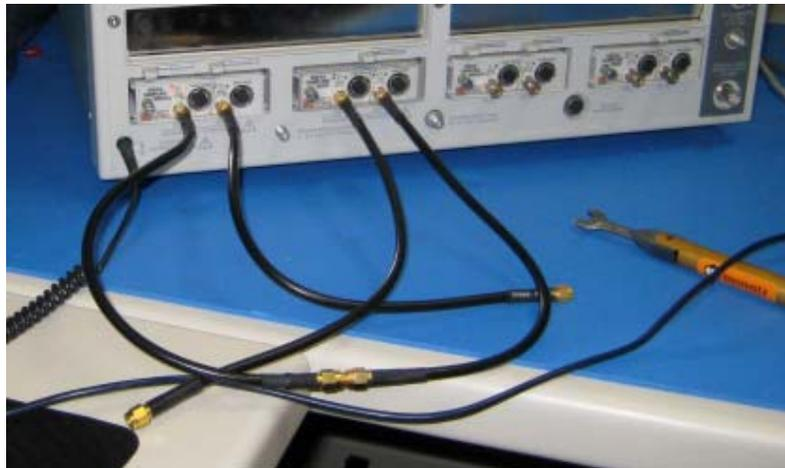

Figure 17 C1 is connected to C4 with SMA barrel. The TDR step is generated on C4 and acquired using C1.
2. Connect channel 1 and channel 4 with SMA barrel⁵, activate TDR step on channel 4 and acquisition on channel 1 (see Figure 17).